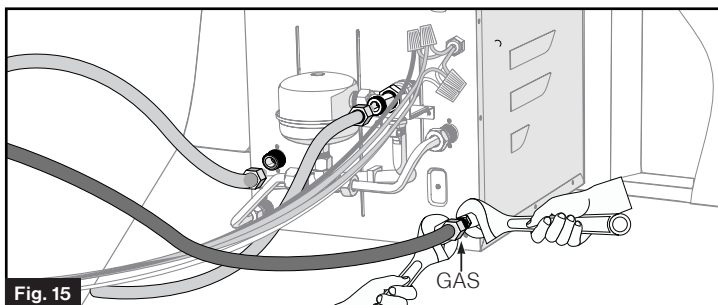

Fig. 15
1. Connect the gas service line to the $\frac{3}{8}$ " LP gas flared fitting on the back of the appliance. Use two wrenches to tighten the compression fitting. Avoid damaging the unit by over-tightening. (Fig. 15)